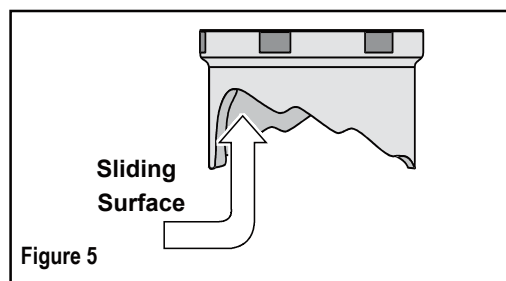

Figure 5
- Rear ride height can be adjusted by turning the adjusting cam to a higher setting. This is also used to stiffen the shock if excessive bottoming occurs while riding the bike. Apply a small amount of the provided lubricant to the sliding surface of the cam and use the spanner wrench to rotate the cam. Figure 5